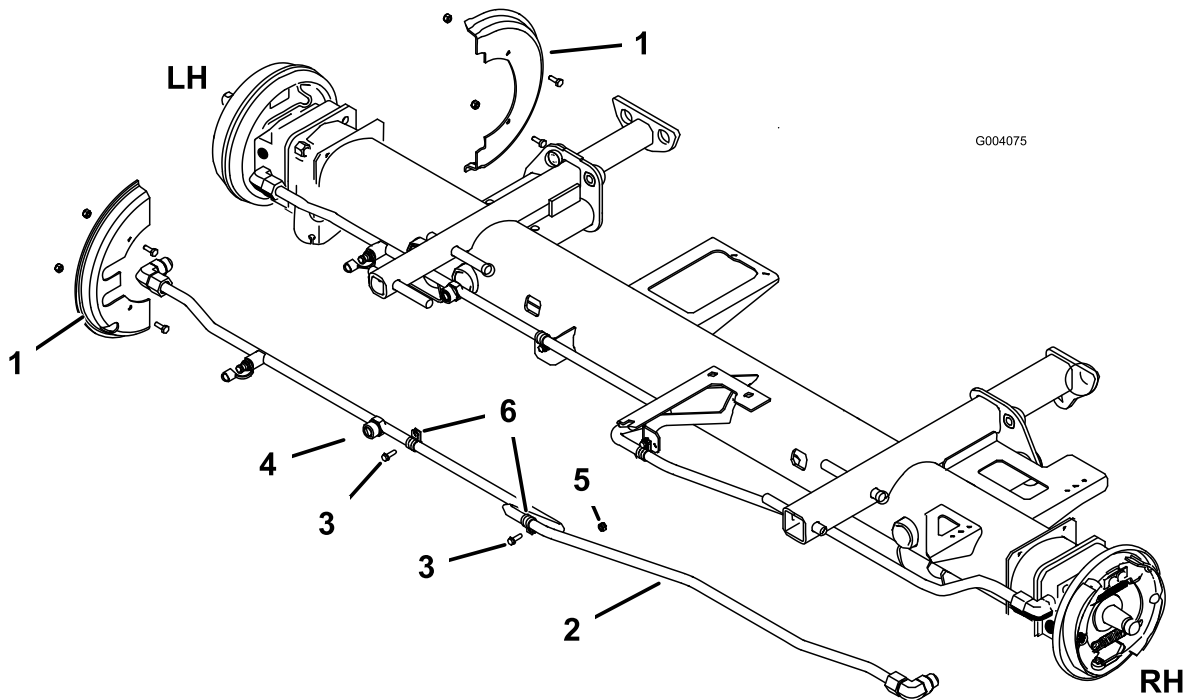

Figure 10
3. Remove the cap screws and nuts securing the wheel shields to the front axle flanges (Figure 10).
4. Disconnect the hydraulic tube from the top fitting on the front left wheel motor and the bottom fitting on the front right wheel motor (Figure 10).
5. Remove the R-clamps securing the tube to the frame (Figure 10) and the cable ties securing the brake cables to the hydraulic tubes.
6. Disconnect the left hose from the variable pump and the hydraulic tube (Figure 10). Also, remove the 45° fitting from the bottom of the variable pump (Figure 10).
6. Install the wheel shields to the front axle flanges with the cap screws and nuts previously removed (Figure 10).